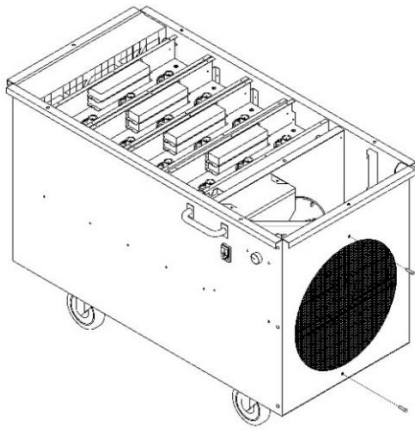

Figure 19
4.) Use an Allen wrench to remove (2) screws holding motor bracket to outlet grille. See Figure 19.
12.) Insert (2) screws holding motor bracket to outlet grille. Use an Allen wrench to tighten screws. See Figure 19.